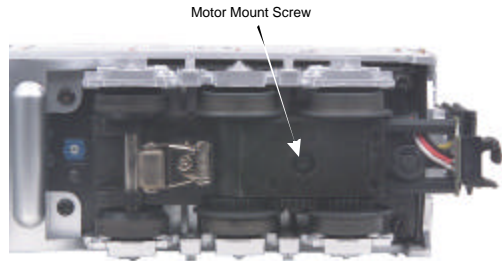

Figure 5
2. Once the cab is removed, remove the trucks by unscrewing the black Phillips motor mount screw located on the underside of the drive trucks (see Fig. 5).